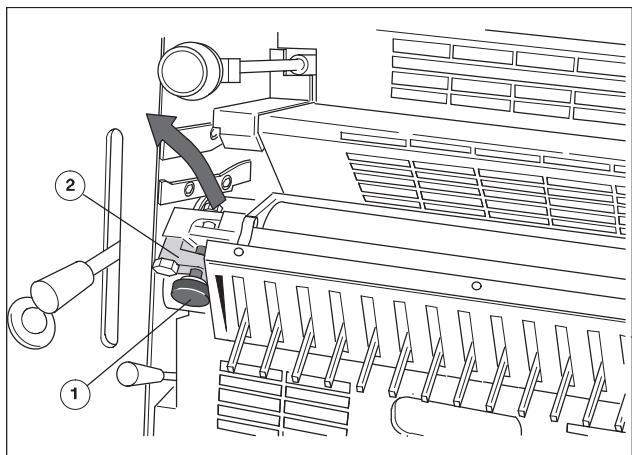

Fig. 11 Folding back the ink fountain
2. Loosen the knurled screws on D.S. (Fig. 11/1) and O.S. and turn the latch (Fig. 11/2) outwards in the direction of the arrow.